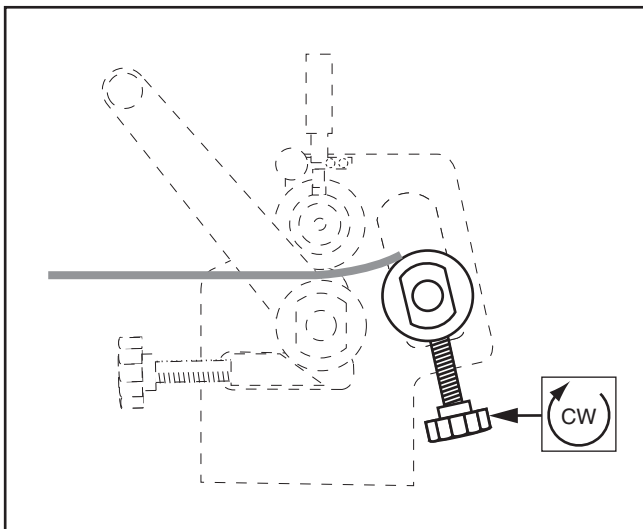

Figure 18. Setting bending radius.
- Turn radius adjustment knobs to raise rear roller until desired radius bend is reached (see **Figure 18**). Make sure to turn knobs equal amounts so rear roller is always parallel with other rollers. Failure to do so will create a larger radius on one end than the other, resulting in a cone or spiral shape.